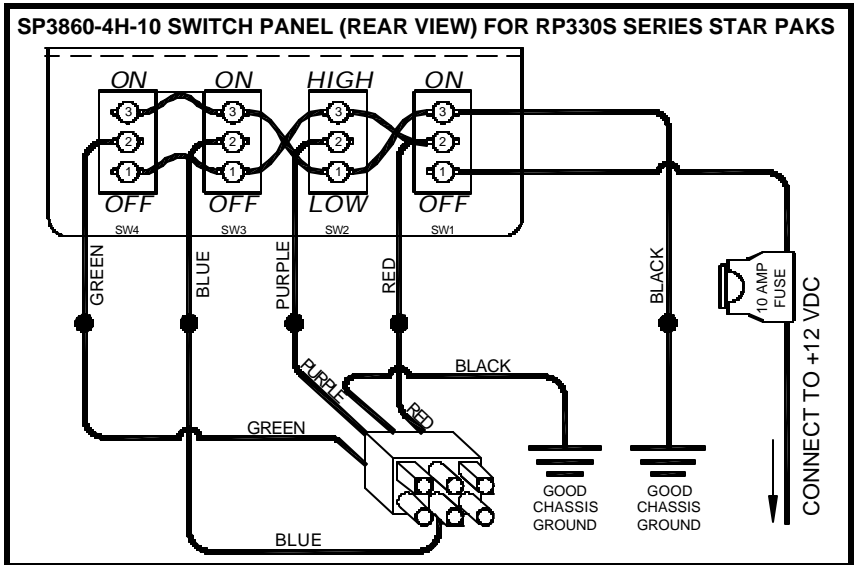

Figure 2
- G. ***For RP330S-A, RP330S-S, RP330SQ-A, and RP330SQ-S only*** For proper utilization of the independent switching feature on these paks, please use in conjunction with a #SP3860-4H-10 switch panel (shown on the following page). One of the switches will operate heads 1 & 2, while another will operate heads 3 & 4. The main power switch (SW1) must be on for either pair of heads to flash. SW1 will turn the system on, SW2 will control whether you are running under HIGH or LOW power, SW3 will switch heads 1 & 2 on or off, and SW4 will switch heads 3 & 4 on or off. In the "-A" models, heads 1 & 2 will flash alternately when power is applied to the blue wire, and heads 3 & 4 will flash alternately when power is applied to the green wire. In the "-S" models, heads 1 & 2 will flash simultaneously when power is applied to the blue wire, as do heads 3 & 4 with power applied to the green wire. You will be connecting the blue and green wires from the pak with the corresponding blue and green wires on the switch panel. Refer to Figure 2 on the next page for proper wiring.